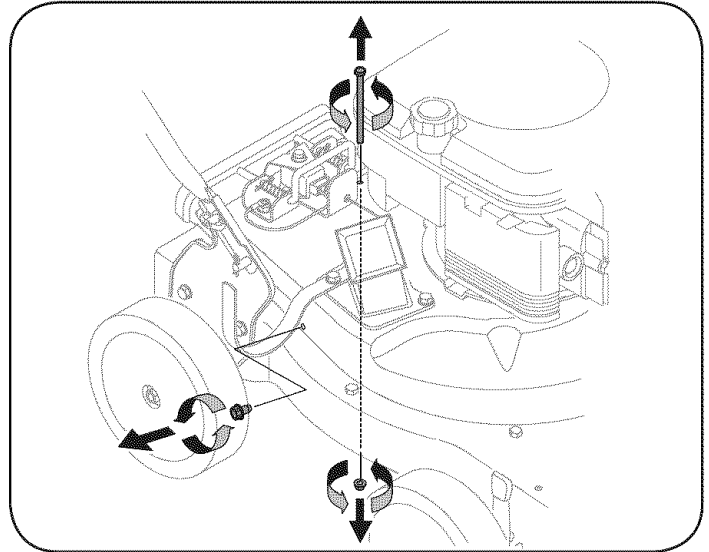

Figure 20
5. Remove self tapping screw on right side of unit that attaches to the flail screen. It may be necessary to remove the hose bracket hanger to get access to the screw. See Figure 20.
6. Remove hex screw on top of rear housing near mounting bracket and the flange lock nut that secures flail screen. See Figure 20.